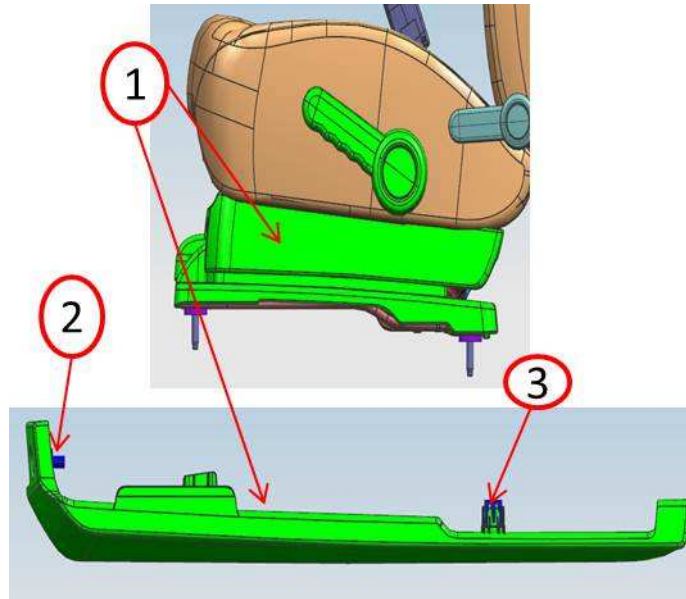

Fig. 1
2. Remove the riser cover (Fig. 1) on the outboard sides of driver and passenger seats.
5. Reinstall riser covers (Fig. 1.) Tighten bolt to 5 N·m (44 in. lbs).